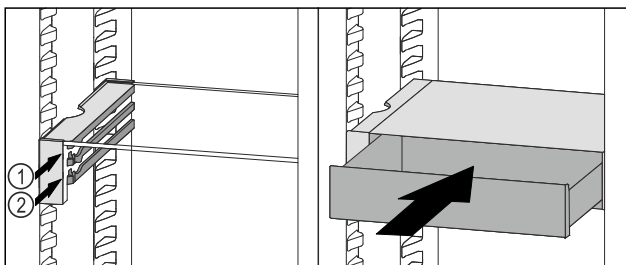

Fig. 111
- ▶ Place the VarioSafe drawer behind the stoppers on desired rib Fig. 111 (1) or Fig. 111 (2).